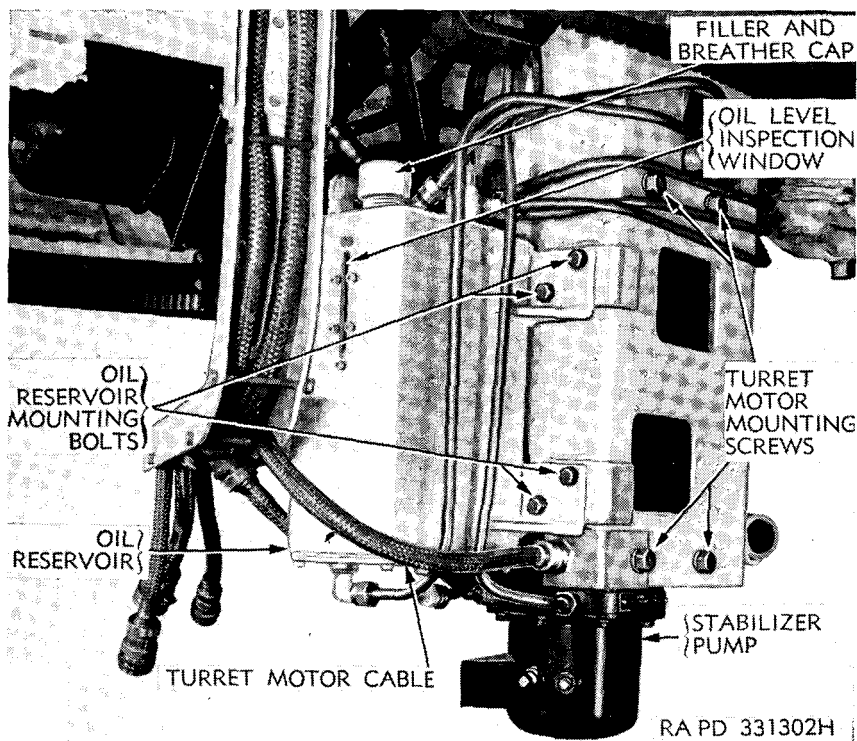

Figure 164. Stabilizer pump and turret motor.
- (2) *Remove pump and pump motor assembly from turret. Remove right lower screw holding turret motor to turret motor mounting bracket (fig. 164). Pull bracket to one side and*
- (1) Place a container under the oil reservoir and disconnect oil feed lines at bottom of pot. Remove two bolts holding conduit to front of oil reservoir. Disconnect six oil feed line connections at top of oil reservoir. Remove four bolts holding oil reservoir to traversing and stabilizer pump motor mounting bracket (fig. 164). Remove reservoir.
- (2) Install oil reservoir over mounting holes on traversing and stabilizer pump motor mounting bracket. Install four attaching bolts and lock washers. Connect six oil feed lines to fittings on top of oil pot. Connect two oil feed lines to fittings on bottom of oil pot. Place cable mounting clips over mount-
- (1) Turn off main battery switch and lower the gun barrel as far as possible.
- (2) Disconnect oil feed lines at bottom of oil reservoir (fig. 164) and drain oil into a container.
- (3) Remove bottom plate. With a clean rag soaked in dry-cleaning solvent or volatile mineral spirits paint thinner, clean out any sludge which may have accumulated on inside of oil reservoir.